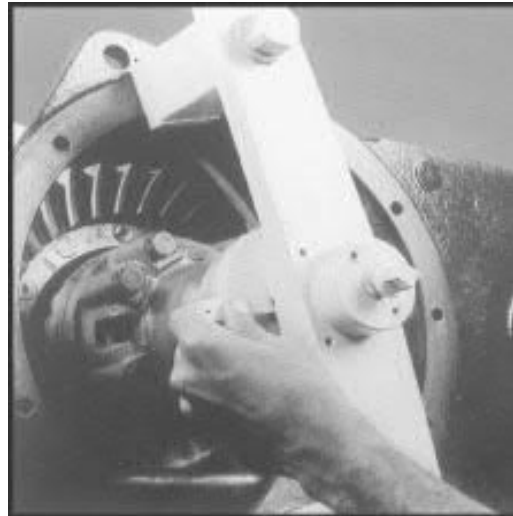

Fig. 19
6. Measure the gap between the tool stand and tool Centraliser using Slip Gauge. The gap measured by slip gauge determines the shim thickness. (Fig. 19).